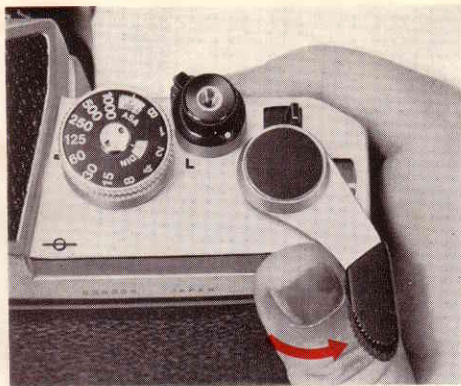

Fig. 11
- (4) Operate film advance lever, depressing shutter release until figure "1" appears in the exposure counter window. In this position the camera is ready for the first exposure to be made (Fig. 11).